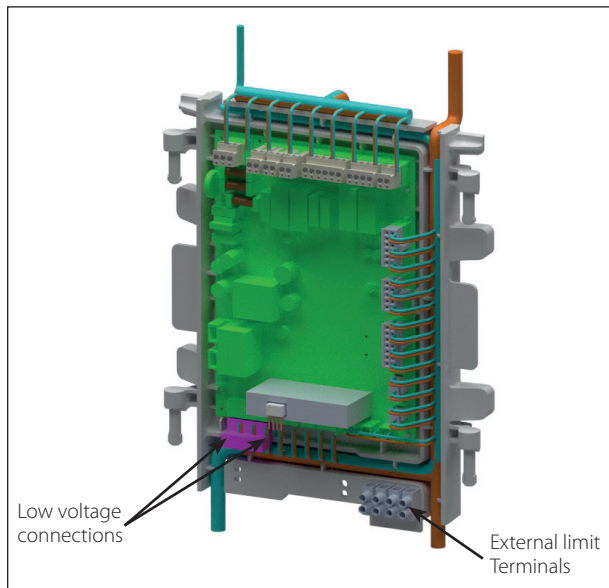

Fig. 26 - Low Voltage Connections
1. Connect the DHW aquastat or temperature sensor wires to low voltage terminals X4-1&2 located at the bottom of the CTRLMax control module as shown in **Fig. 26**.
3. Connect the external limit wires to the Manual Reset Limit or Auto Reset Limit low voltage terminals located on the lower right corner of the CTRLMax control module housing as shown in *Fig. 26*.
1. Connect the system temperature sensor wires to low voltage terminals X5-3&4 located at the bottom of the CTRLMax control module as shown in *Fig. 26*.